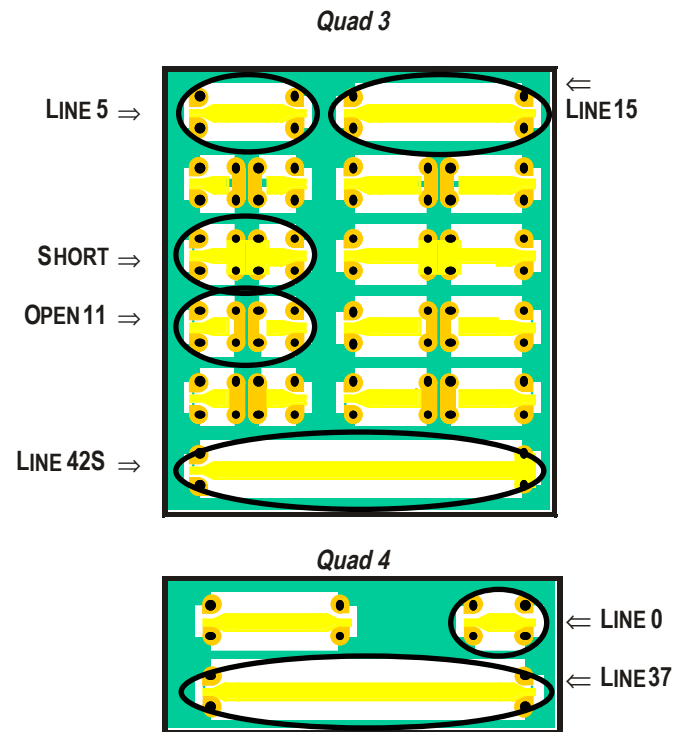
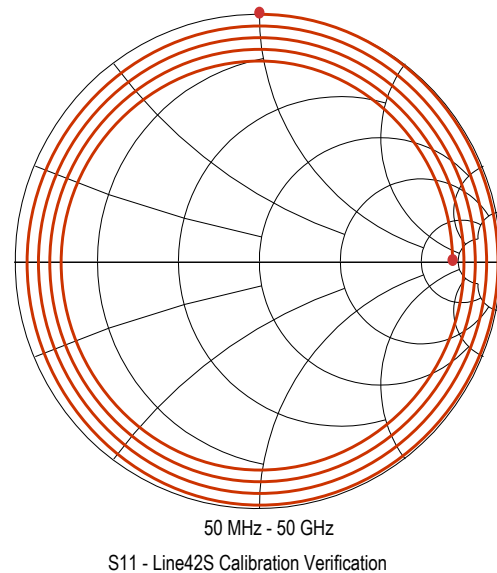

Figure 4 - TRL Calibration Structures on the ProbePoint™ CM10 Calibration Structures Substrate
Figure 5 - Calibration Verification
2. Sequentially probe the standards standard identified in Figure 4, stepping through the cal process. It is important to place the probes at the same location with respect to the vias, when probing each calibration structure.
3. Verify the calibration. A one port verification can easily be performed by placing the probes, one at a time, on Line42S (see Figure 4). The response should be a spiral on a Smith chart, similar to Figure 5.